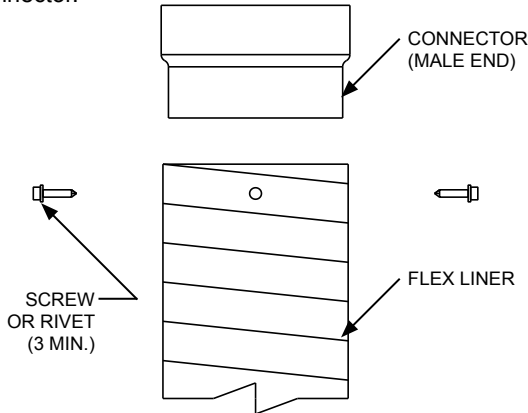

FIG. 5
3. Insert connector male end into end of a flex liner length. Secure liner to connector using a minimum three (3) #8 x 1/2" (M4 x 13 mm) self-tapping stainless steel screws or 1/8" (3.5 mm) diameter stainless steel rivets. Pre-drill holes using a 9/64 (3.6 mm) drill bit approximately 1-1/4 inch (32 mm) from edge of liner (See **FIG. 5**). Screws or rivets must be equally spaced around the connector.